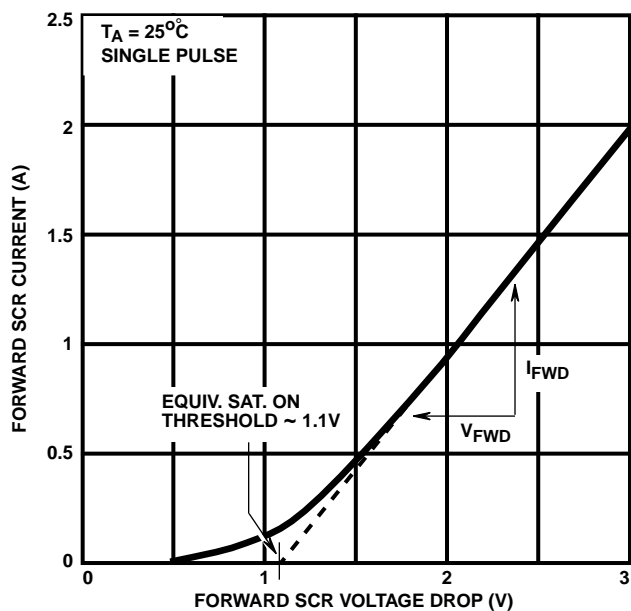

FIGURE 3. HIGH CURRENT SCR FORWARD VOLTAGE DROP CURVE
2. Refer to the Figure 3 graph for definitions of equivalent "SCR ON Threshold" and "SCR ON Resistance." These characteristics are given here for thumb-rule information to determine peak current and dissipation under EOS conditions.